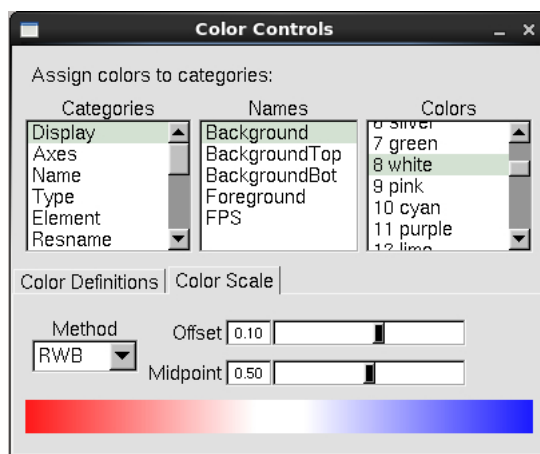

Figure 25: VMD color scale window
- 11 Because we changed our Timeline color scale to RGB, we should do the same for our representation. From the Colors window in the Graphics menu of the VMD main window, you should select the Color Scale tab at the bottom, as seen in Fig. 25. In the Method box, select RGB. Now the colors in our Timeline plot should match the colors on the structure.